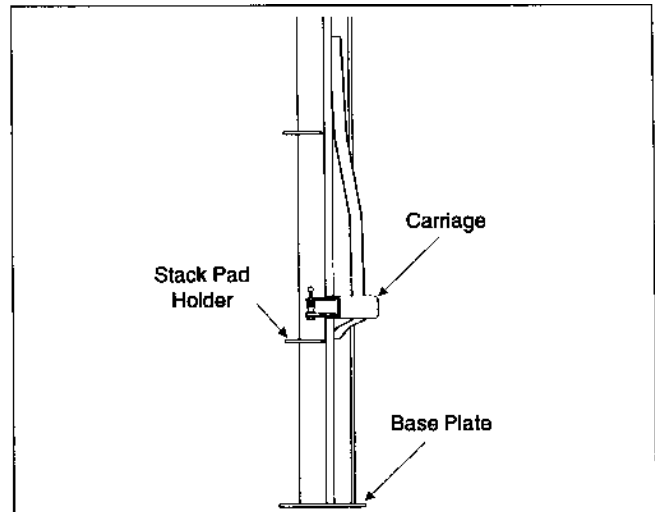

Figure 5 - Raise Carriage
4. To provide clearance for drilling anchor bolt holes, raise the carriage to the height of the stack pad holder (Figure 5). The safety latch should hold the carriage at this position.